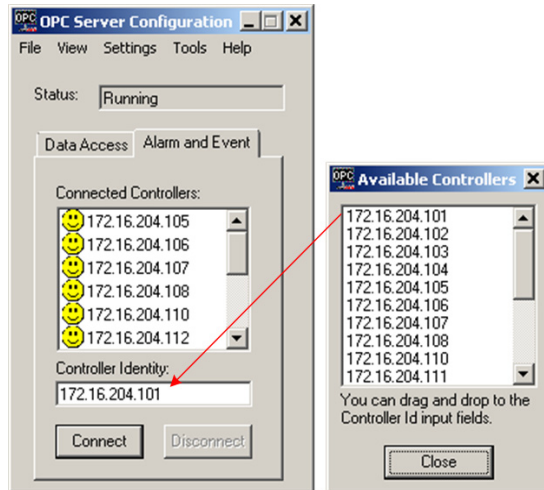

Figure 23. Connect to Controllers
4. Drag the IP address of the requested controllers to the Controller Identity field in the OPC Server Configuration dialog box (clear old contents first) and click **Connect**. Refer to Figure 23.
Refer to Figure 23 and verify that the OPC Server is running, and its connection status for the controllers can be viewed in the OPC Server panel.